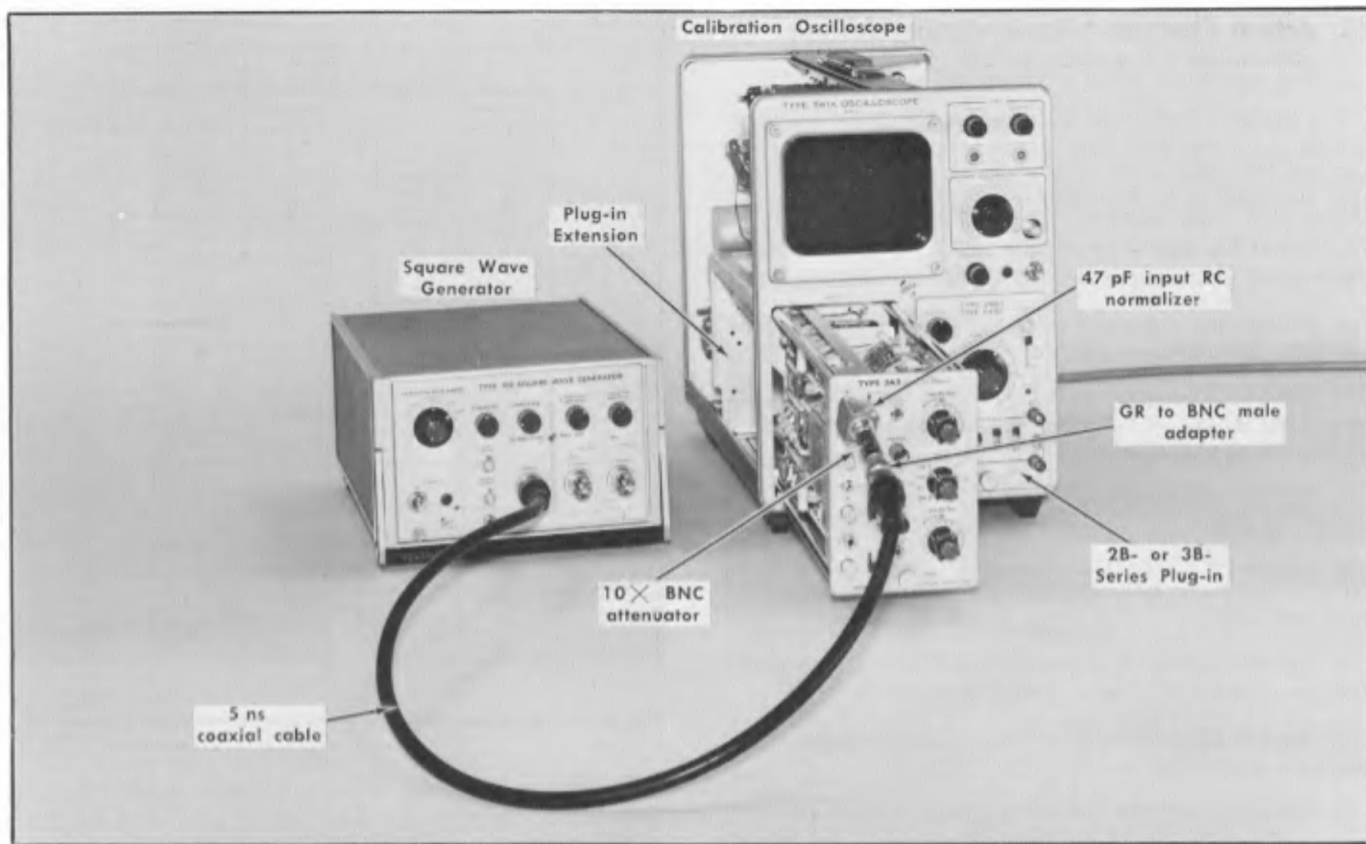

Fig. 6-12. Initial test equipment setup for steps 22 and 23.
- a. Test equipment setup is shown in Fig. 6-12.